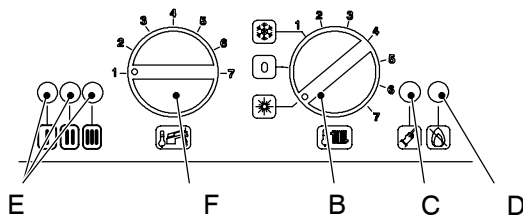

Fig. 11.6
- 19 Set the knob *F* to the minimum position as illustrated in Fig. 11.6